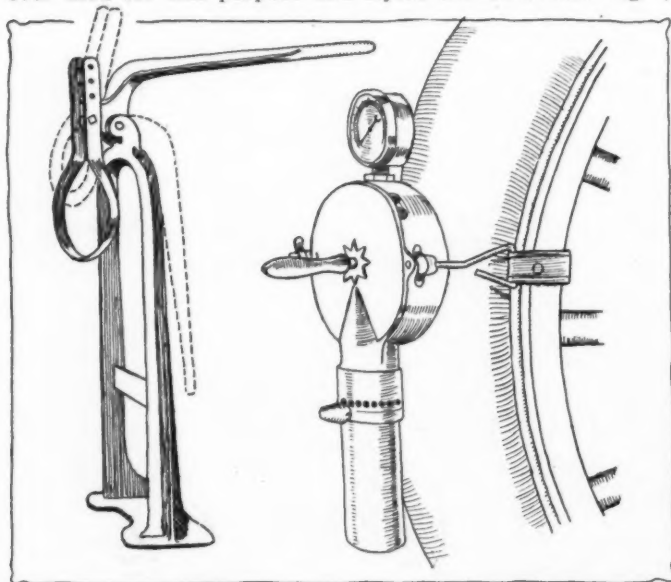

Fig. 1—Moore Jack. Fig. 2—Star portable steam vulcanizer
**STAR Portable Vulcanizer**—The Star Vulcanizer Mfg. Co., Columbus, O., manufactures the portable steam vulcanizer, Fig. 1. This device consists of a small steam boiler of gray iron tested to withstand 300 pounds pressure per square inch and fitted with a concave surface which fits that of the casing of the tire. In operation, the burner under the boiler is filled with alcohol and the fuel is lit, whereby the water in the boiler is vaporized and circulated to heat the plate contacting with the tire. A gauge shows the pressure of the steam on the device.